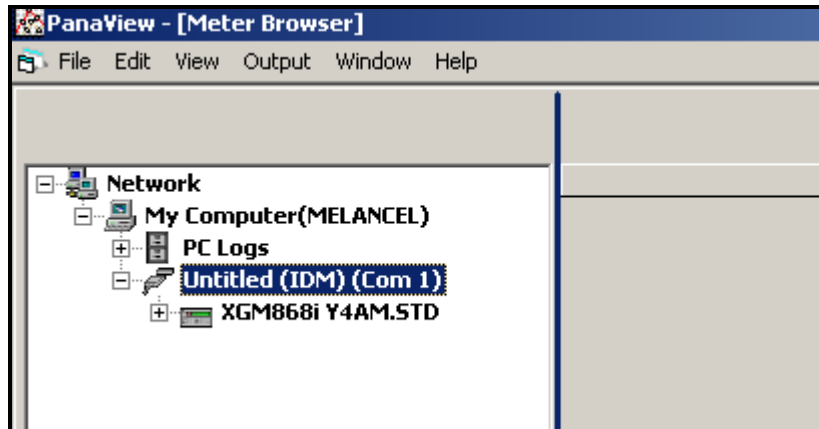
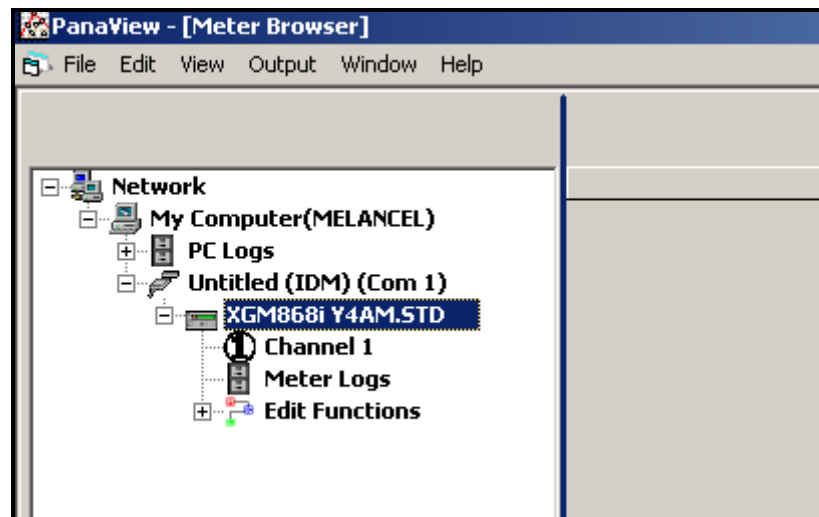

Figure C-6: Updated Network Tree
Figure C-8: Meter Tree with *Edit Functions* Option
If the initialization is successful, the *Meter Browser* shows a listing similar to Figure C-6 below.
1. From the meter tree in the *New Meter Browser* (see Figure C-6 on page C-7), click on the XGM entry. The screen now appears similar to Figure C-8 below.